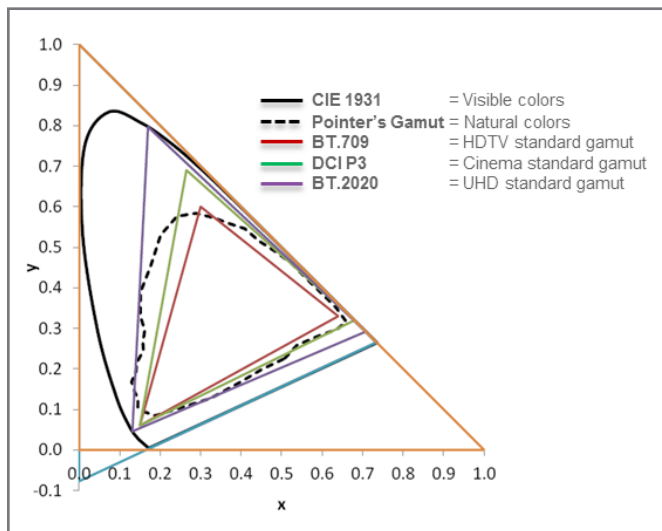

Figure 2 – Comparison of different color gamut.
**Recommendation ITU-R BT.2020:** Parameter values for ultra-high definition television systems for production and international programme exchange specify for UHD applications a new color space also known as wide color gamut (WGC) which can reproduce colors that cannot be shown with the BT. 709 (HDTV) color space (see Figure 2.).